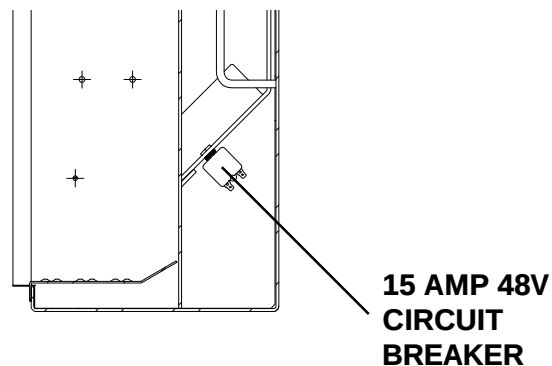

Figure 1-4
Step 8. Reach underneath the Line Contactor. Pull the #03 wire through the rubber grommet and follow along the back to where it meets the other wire, #01 from the 18/2 cable of the Charger Interlock Harness. Then follow the #01 wire, of the Charger Interlock Harness, forward to the 15 Amp, 48V circuit breaker and disconnect it from the circuit breaker (**Refer to Figure 1-4**).